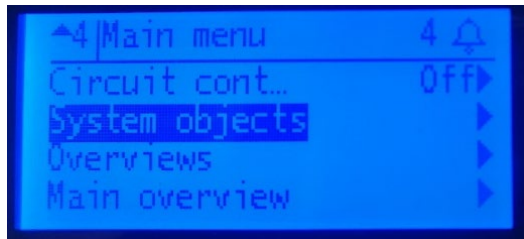

Figure no. 17
6. Select **System objects**. (see figure no. 17)